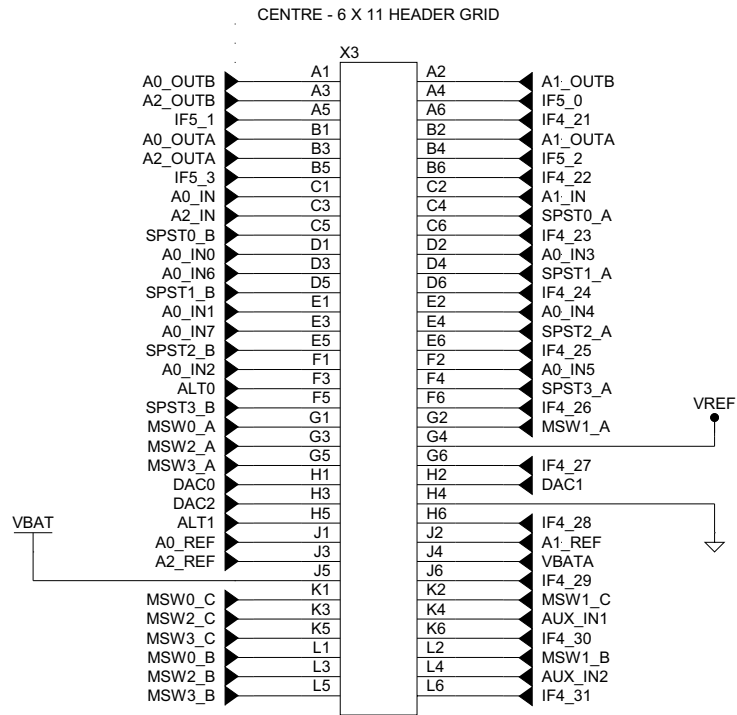

Figure 7: Analog Input/Output Schematic
- Analog input/output schematic (Figure 7 on page 22)